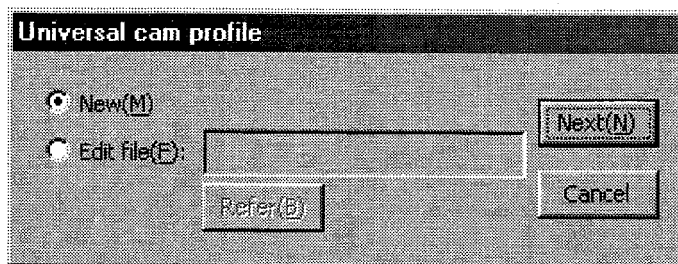

Figure 7.53 "Universal cam profile" dialog box
(1) Creating a universal cam
Click "*Universal cam (P)*" in the "Cam Profile Menu" dialog box to display the Universal cam profile dialog box (see Figure 7.53).